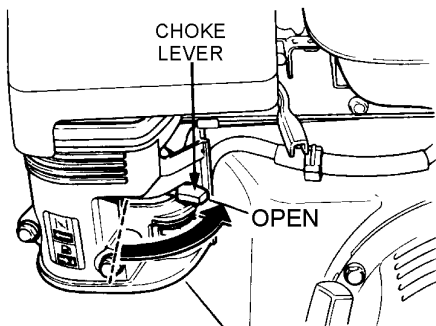

Figure 12. Choke Lever (Open)
- If the choke lever was moved to the "CLOSED" position to start the engine gradually move it to the "OPEN" position (Figure 12) as the engine warms up. If the engine has not started repeat steps 1 through 6.